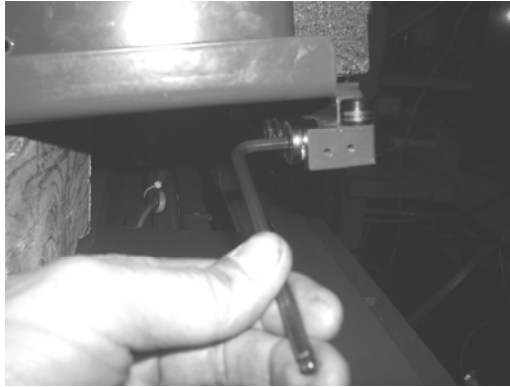

FIGURE 14
11. Refer to **FIGURE 14**. Remove all four horizontal cam followers and all four vertical cam followers.